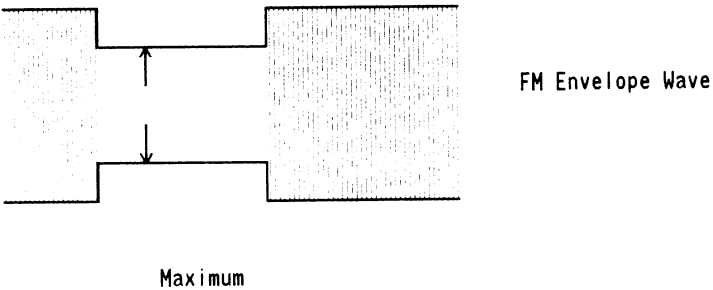

Fig. 9
3. Adjust the X value adjustment nut ⑤ for maximum PB FM envelope for CH1 playing the test tape. (Refer to Fig. 9)